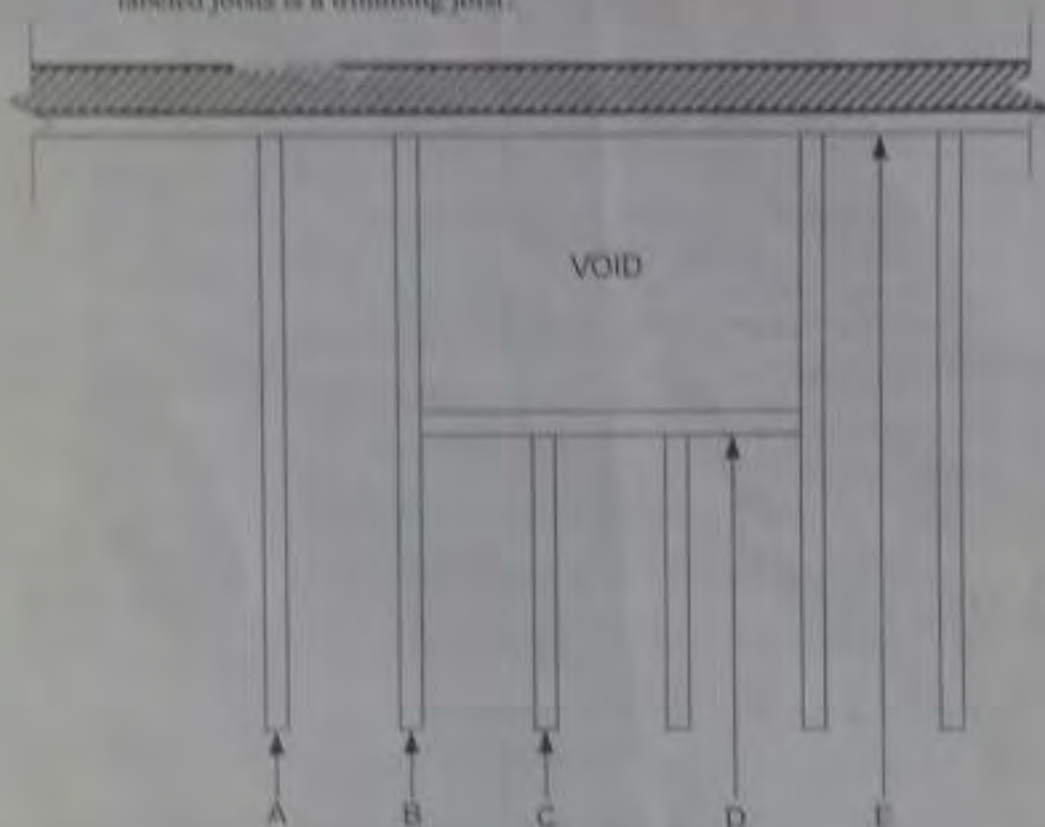

Figure 1
- (vii) Figure 1 is showing part of an opening through a timber floor. Which among the labeled joints is a trimming joint?